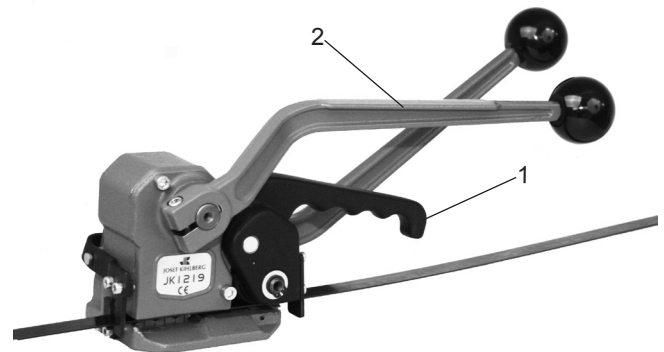

Fig. 3
- Wind strap tightly round packed goods, so that the straps lie above each other on top. Hold the strap in the left hand so that the lower strap start (Fig.3) is approx. 20 cm (8") from the hand.